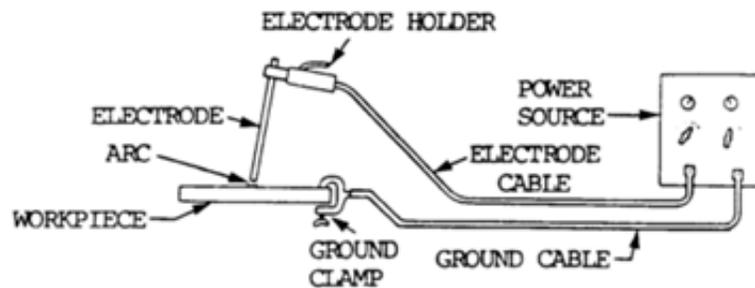

Figure Weld-2: an electrical arc welding process
- Electric arc welding: As in figure Weld-2.